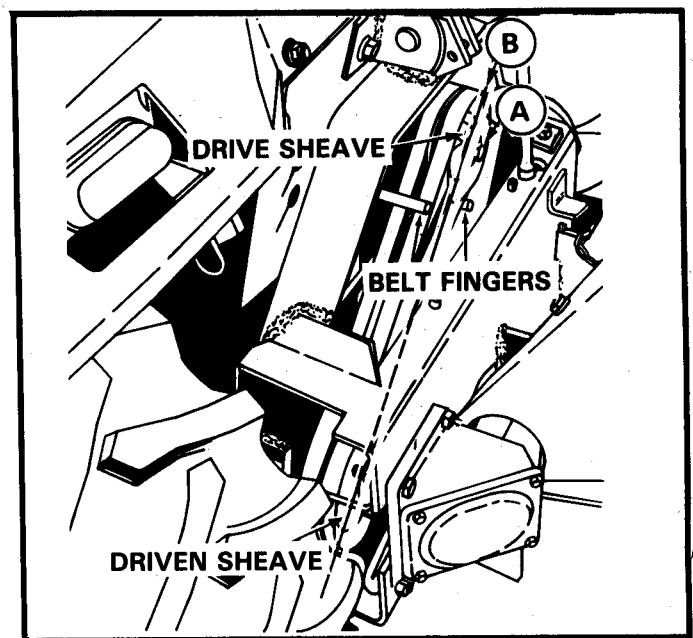
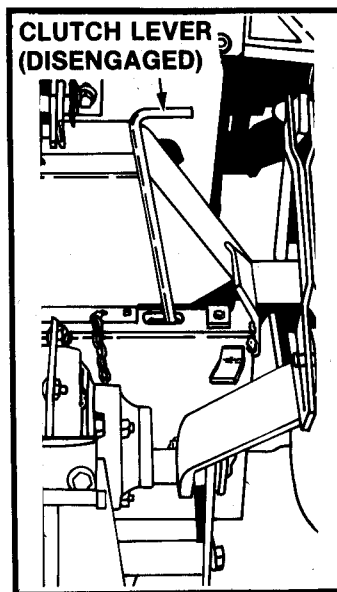
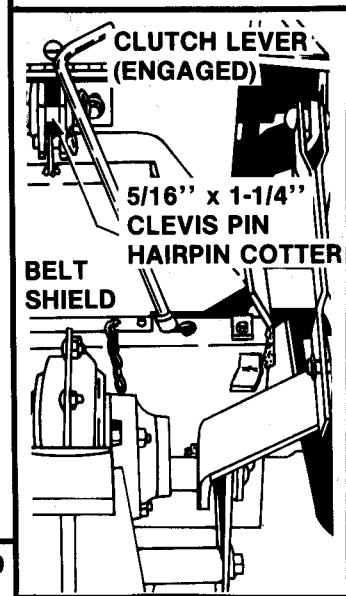

FIGURE 7
FIGURE 10
FIGURE 11
2. Engage Tiller Clutch Lever, Figures 10 and 11.
8. Engage Tiller Clutch Lever, Figures 10 and 11, and check belt alignment of the drive and driven sheaves as shown by the straight line "B" in Figure 7. The sheaves must be in alignment. If adjustment is needed align as follows:
10. If alignment still cannot be obtained loosen the two setscrews in the driven sheave, Figure 7. Slide driven sheave in or out to align and secure in position.
11. Re-check the sheave and idler alignment, Figure 7, to assure that the drive belts will run straight in the sheaves and idler is centered on belts.
TILLER CLUTCH LEVER — FIGURES 10 & 11
The Tiller Clutch Lever is easily accessible from the operator's seat. To disengage the tiller, pull Lever up to the right, Figure 10, and release. To engage the tiller, pull Lever up and to the left, Figure 11.
1. Be sure Tiller Clutch Lever is in the disengaged position, Figure 10.
8. Pull Tiller Clutch Lever, Figure 11, up and to the left to engage the tiller drive.